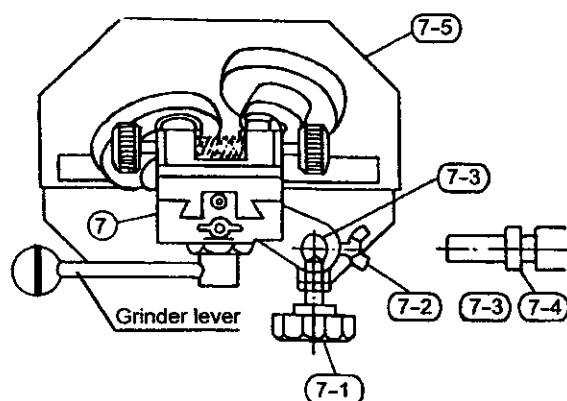

Fig. 7
2. As shown in Fig.7,pull the grinder lever to start grinding.